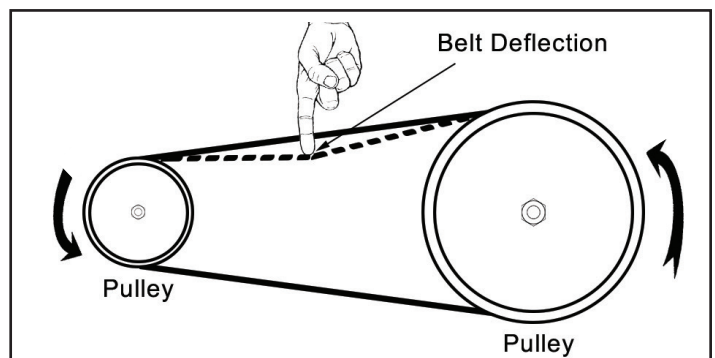

FIG. 13
**NOTE:** The belt is properly tensioned when the deflection distance is about 3/8" to 1/2" when pushed by hand. FIG. 13.